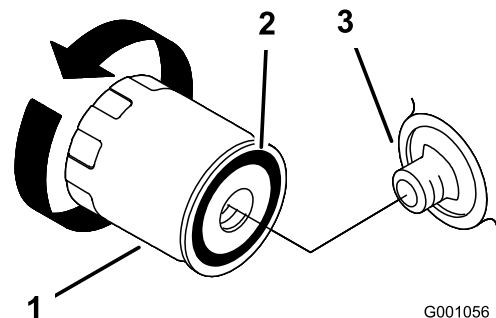

Figure 36
4. Apply a thin coat of new oil to the rubber gasket on the replacement filter (Figure 36).
5. Install the replacement oil filter to the filter adapter. Turn the oil filter clockwise until the rubber gasket contacts the filter adapter, then tighten the filter an additional 1/2 turn (Figure 36).